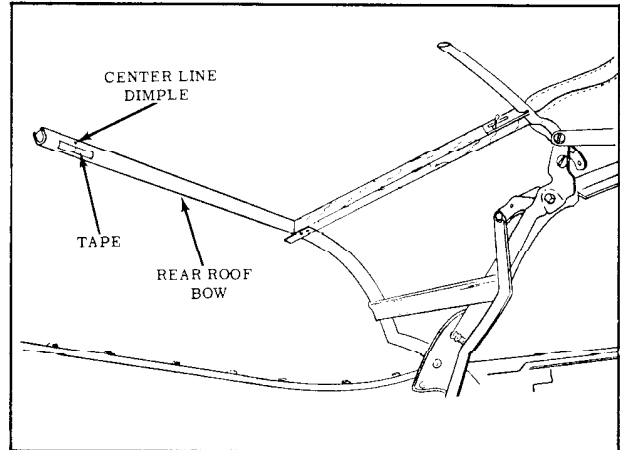

Fig. 15-102 Marking Rear Roof Bars
27. Along forward surface of rear roof bow install a 1" piece of tape at centerline dimple of rear roof bow. Using a pencil, mark centerline of rear bow on tape. (Fig. 15-102)
NOTE: The deck seam mark will vary slightly ($\pm 1/4''$) depending upon position of rear roof bow. Also check centerline mark on inner lining of top material. Mark should correspond to centerline mark on rear roof bow. (Fig. 15-102)